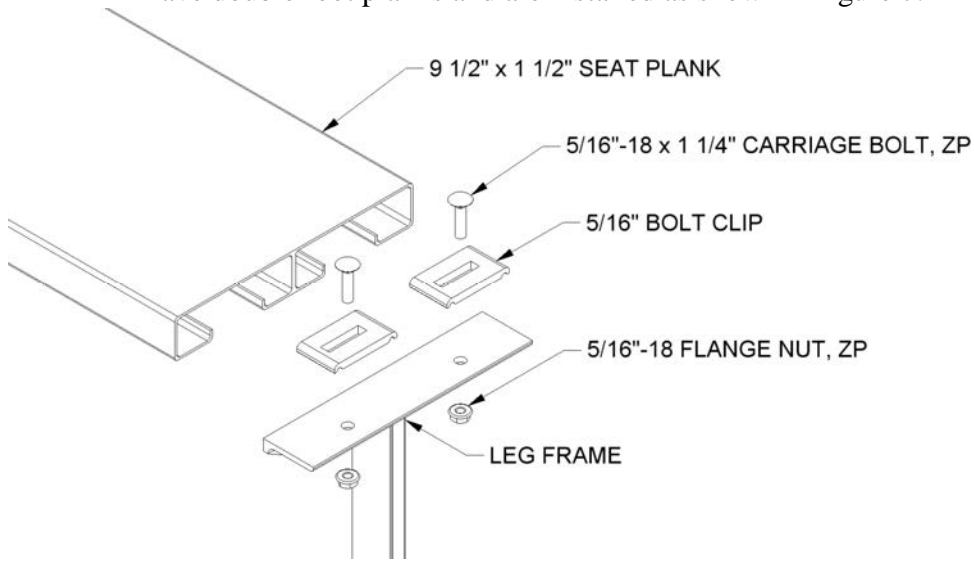
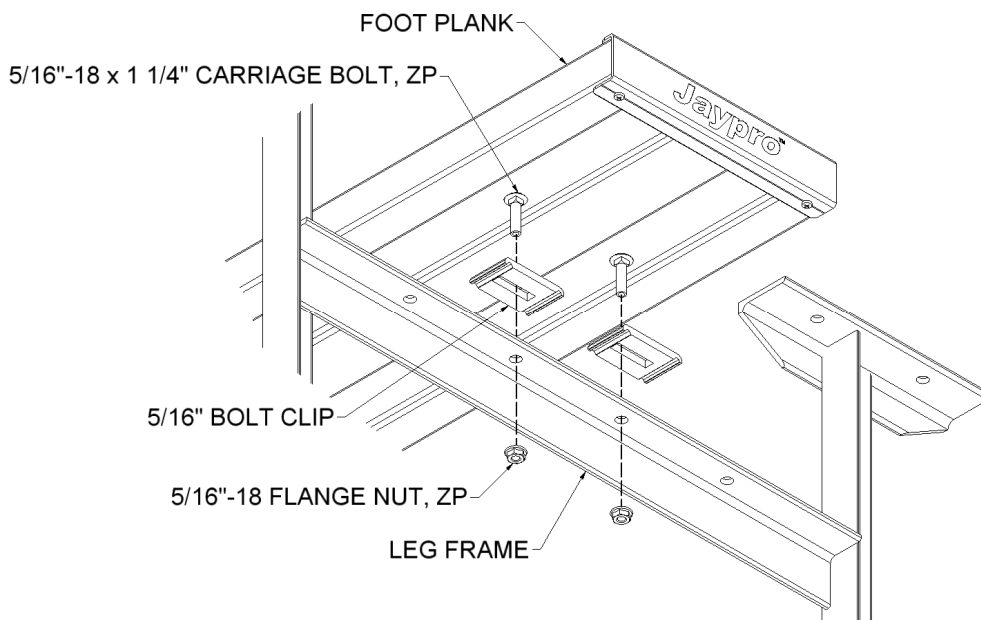
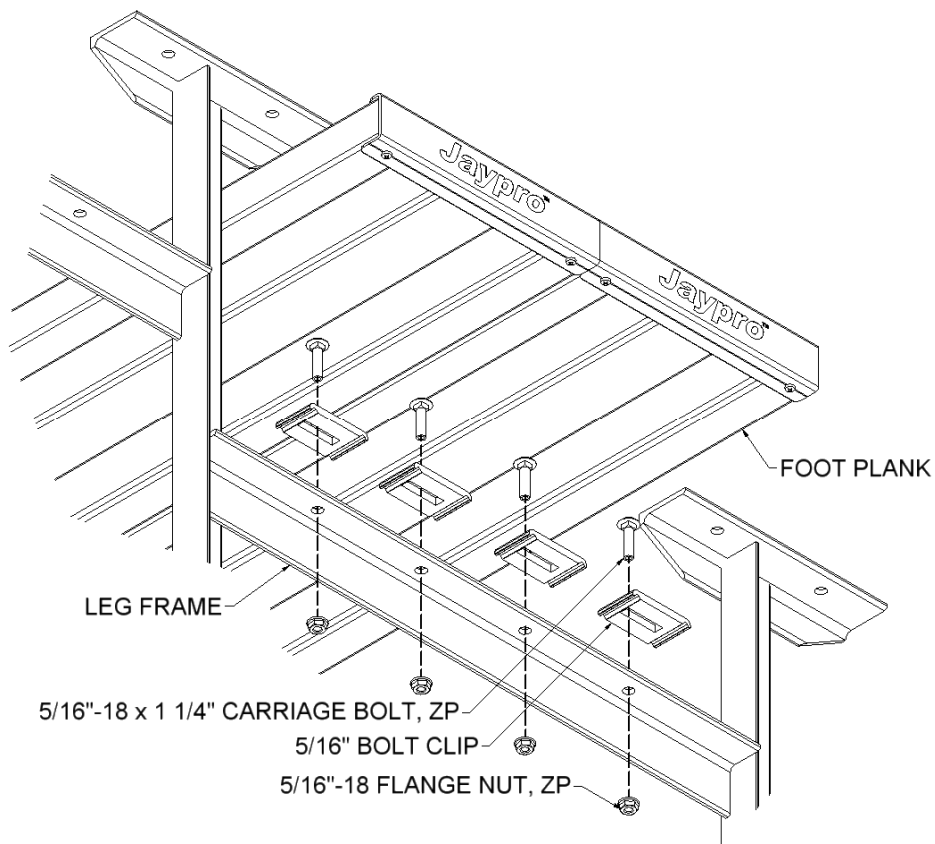

FIGURE: 5
FIGURE: 6
FIGURE: 7
5. Making sure the undercarriage frame is square and plumb, install the seat and foot planks. The seat and foot planks are best installed starting from the front seat and working towards the back. Use the hardware and bolt clip as shown in figure 5. Position planks so they are centered on the frame, with equal amount of overhang on each end. Note that standard bleachers (BLCH-475TRG) have a single foot plank, which is centered on the support frame, see figure 6. Preferred bleachers (BLDP-475TRG) have double foot planks and are installed as shown in figure 7.